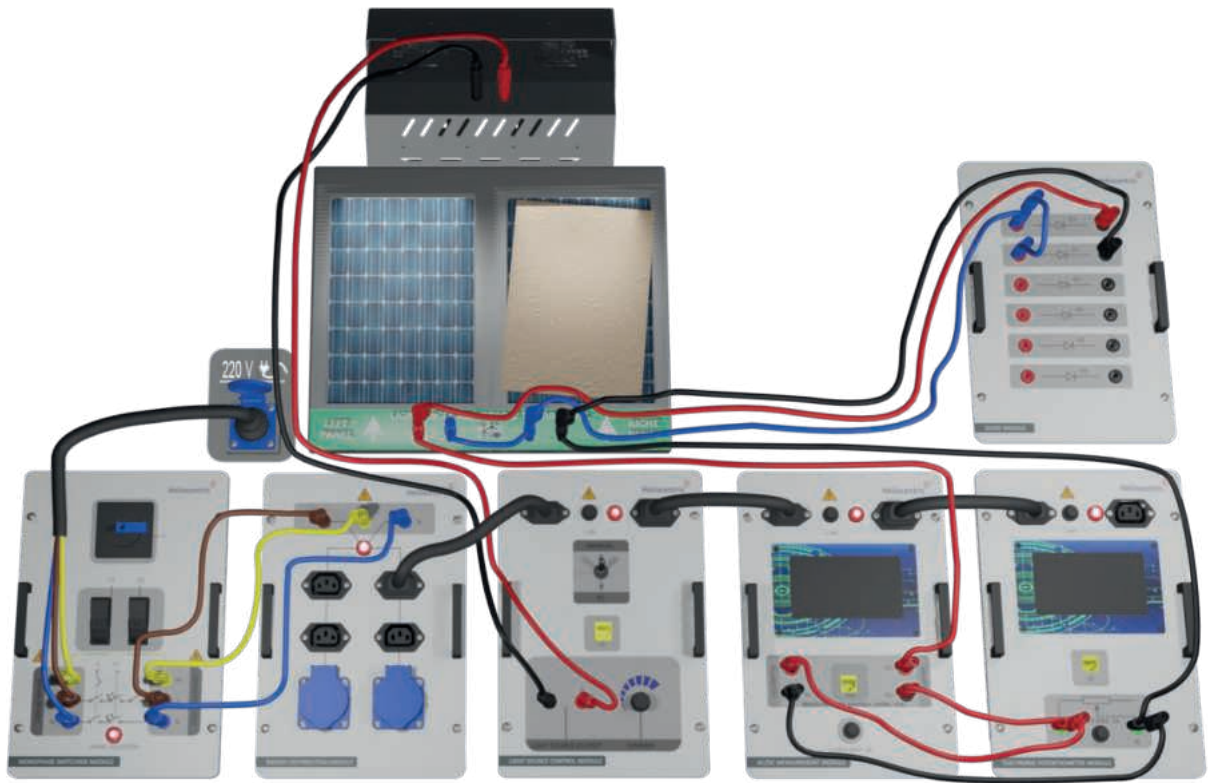

Figure-51. Installation Image of Examination of Effect of Bypass Diode in Photovoltaic Panels (with Shadow Effect)
6. Afterward, cover the other panel as shown in Figure-51. Record the values displayed by the voltmeter and ammeter in the DM Module in Table-41.